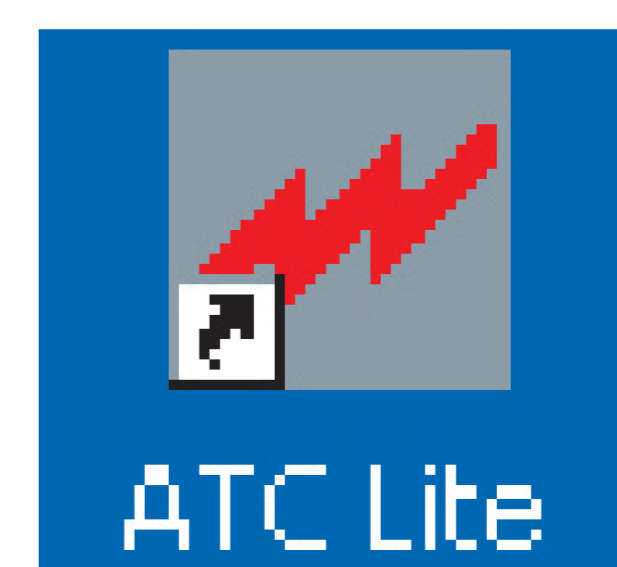

Figure 3-1. ATC Lite Program Icon.
- Double-click on the ATC Lite program icon on the computer's desk-top. See Figure 3-1.